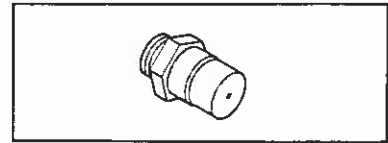

Figure 61
Step 8. Remove the orifice from the manifold and replace it with the one provided with the kit. See the following table for orifice sizes for natural and propane models. *Figure 61* illustrated the orifice.